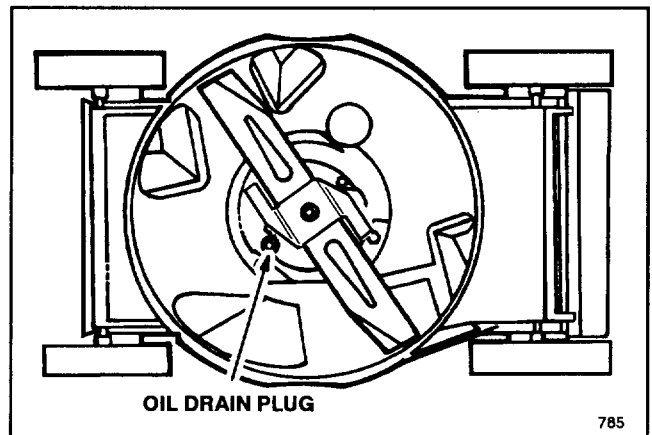

Figure 14
3. Tip mower on its right side (Fig. 14). Place a drain pan under mower.
4. Remove drain plug (Fig. 14) from underside of mower using a 3/8" female square drive.